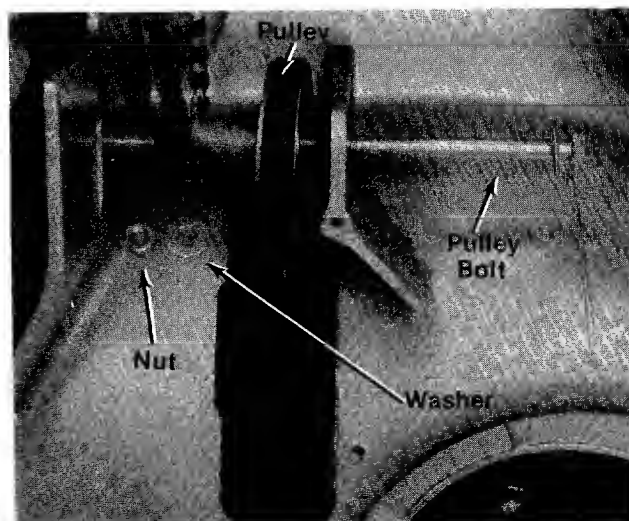

FIGURE 23
6. Remove the nut and slide the pulley bolt out. (See figure 23.)